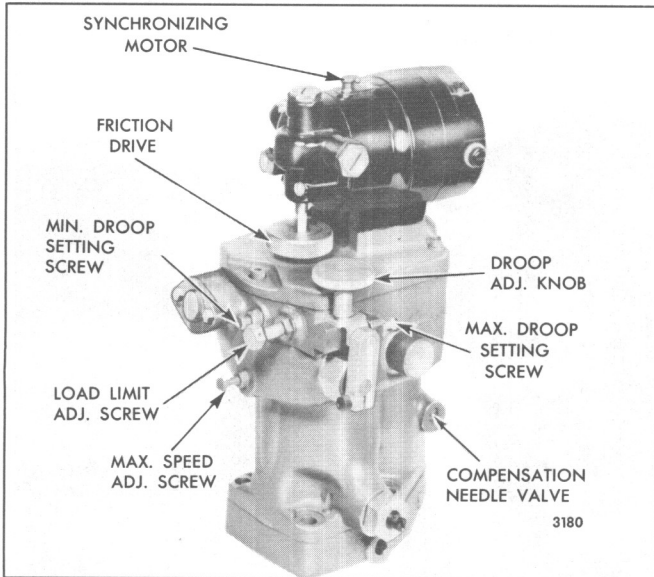

Fig. 9 – Typical Synchronizing Motor Mounting
1. Open the valve (Fig. 9) two or three turns and allow the engine to “hunt” or “surge” for about one-half minute to bleed any air which may be trapped in the governor oil passages.
Some PSG type governors are equipped with an external adjustable droop control (Fig. 9). This permits the speed droop to be adjusted without removing the governor cover. With this feature, a unit can be paralleled with another unit that is operating at constant frequency (zero droop). The incoming unit must have its droop bracket set in the *maximum* position while it is being paralleled and while operating in parallel. When it is desired to stop the unit operating at constant frequency, shift the load to the incoming unit and move the governor droop bracket to zero droop. Then adjust the outgoing unit to maximum droop, remove it from the line and stop the engine. The incoming unit will now be carrying the load and operating at constant frequency (zero droop).